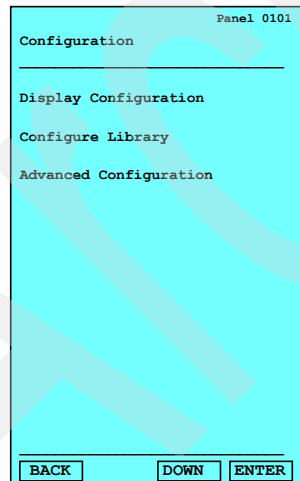

Figure 2-40 IBM TS3500 operator panel: Configuration
4. Click **UP** or **DOWN** to highlight *Advanced configuration* and click **ENTER** (Figure 2-40). The library displays the message: If you continue with configuration the library will go offline. Click **ENTER** to continue.